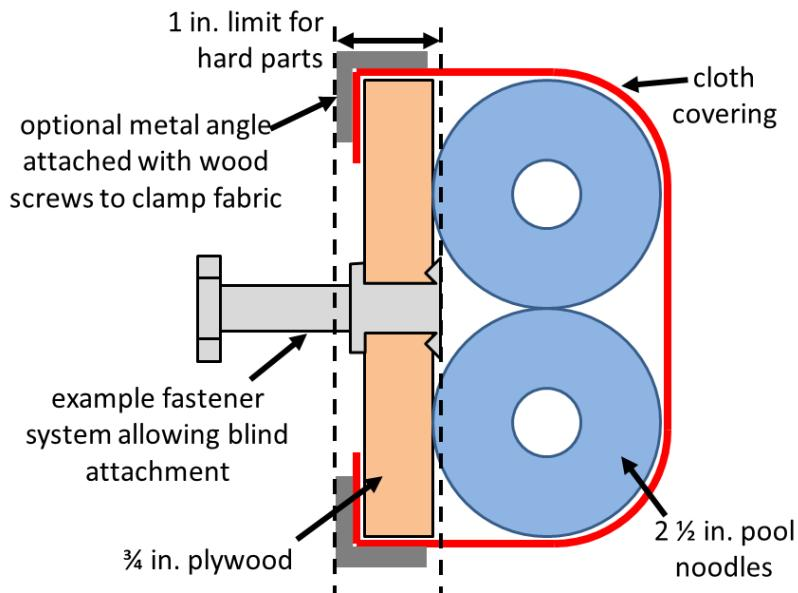
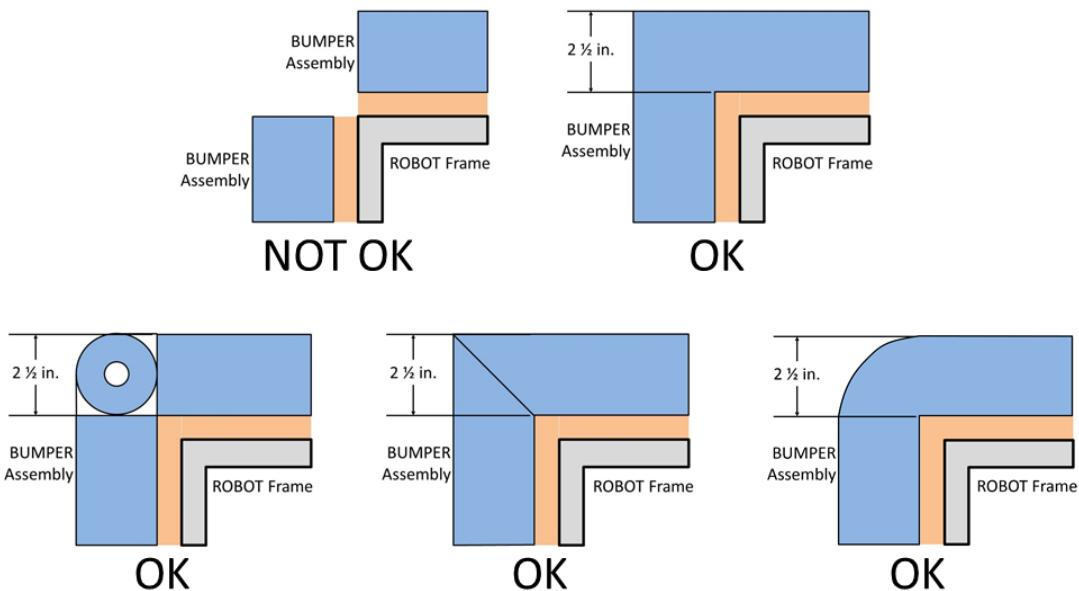

Figure 9-7 BUMPER vertical cross section
Figure 9-8 Soft parts of BUMPER corners
- R24.** BUMPERS must be constructed as follows (see Figure 9-7):
- C. use a stacked pair of approximately 2½ in. (nominal, ~63mm) round, petal, or hex “pool noodles” (solid or hollow) as the BUMPER cushion material (see Figure 9-7). All pool noodles used in a BUMPER set (e.g. Red set of BUMPERS) may not be modified (with the exception of cutting to length or cutting to facilitate mating pool noodles at the corners as required by R25) or deformed and must be the same diameter, cross-section, and density (e.g. all round hollow or all hex solid). Cushion material may extend up to 2½ in. (~63 mm) beyond the end of the plywood (see Figure 9-8). To assist in applying the fabric covering, soft fasteners may be used to attach the pool noodles to the wood backing, so long as the cross section in Figure 9-7 is not significantly altered (e.g. tape compressing the pool noodles).
- D. be covered with a rugged, smooth cloth. (multiple layers of cloth and seams are permitted if needed to accommodate R21 and/or R22, provided the cross section in Figure 9-7 is not significantly altered).
- E. optionally use metal angle, as shown in Figure 9-7 or other fasteners (e.g. staples, screws, adhesives, etc.) to clamp cloth.
R25. Corner joints between BUMPERS must be filled with pool noodle material. Examples of implementation are shown in Figure 9-8.